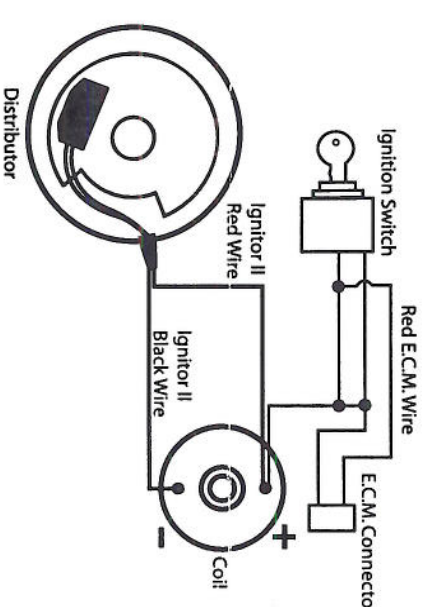

FIGURE 3
3. The Ignitor II ignition can be used in conjunction with most ignition coils rated at 0.6 ohms or greater. For optimum performance purchase and install the Flame-Thrower II high performance coil. Use the provided wire locks to attach the Ignitor II wires in the following manner. Attach the black Ignitor II wire to the wire connected to the negative coil terminal. Attach the red Ignitor II wire to the wire connected to the positive coil terminal. (See Figure 3)
5. **B. Alternative:** The Ignitor II can also be installed in applications retaining the ballast resistor or resistance wire. (See Figure 3)